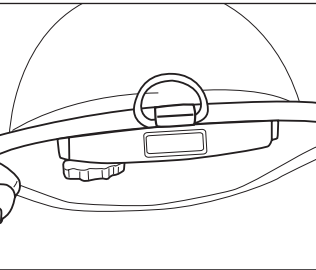

Figure 8
- Return to the first screw and finish tightening it (Figure 8).